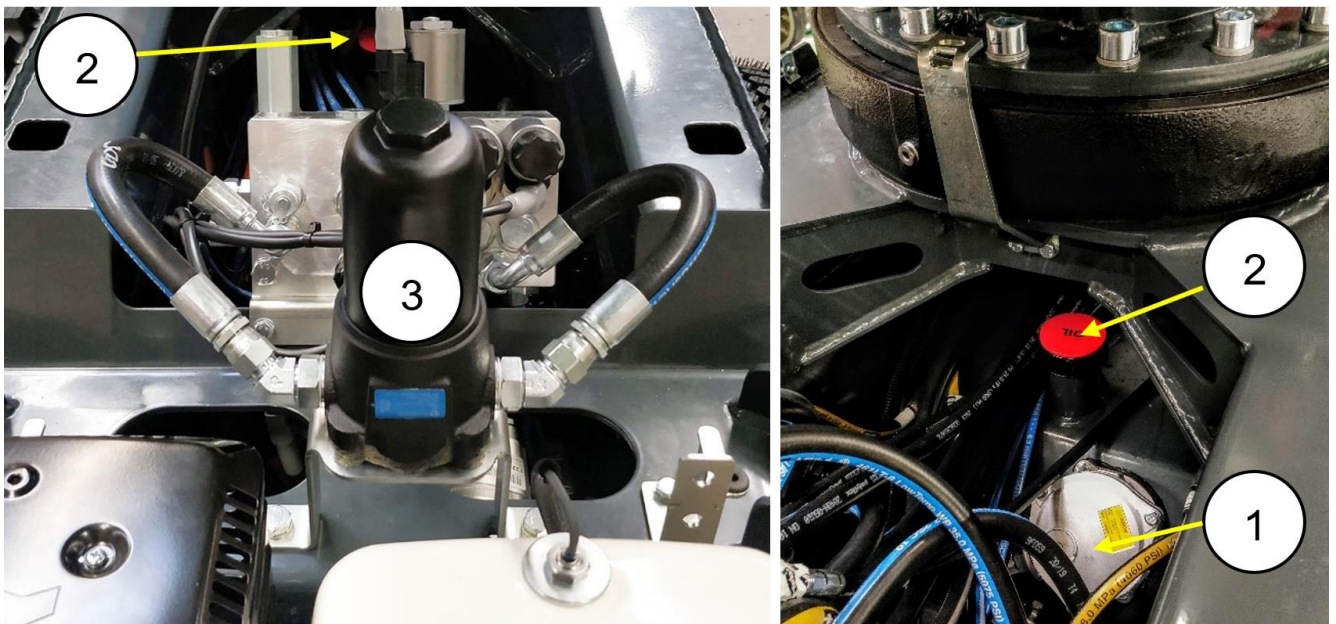

Figure 20 Hydraulic oil filter
The hydraulic return oil filter (figure 20, (1)) is located on the side of the oil tank inside the chassis. Replace the filter by removing the filter cap and replacing the filter cartridge. When replacing the hydraulic oil, the oil can be removed with a suction pump from the opening of the breather cap (2), or by opening the drain plug in the bottom of the chassis. In both cases, it is important to clean the magnetic drain plug. The hydraulic pressure filter cartridge (3) must always be changed when the return filter is changed. The pressure filter is located behind the combustion engine, on top of the chassis.